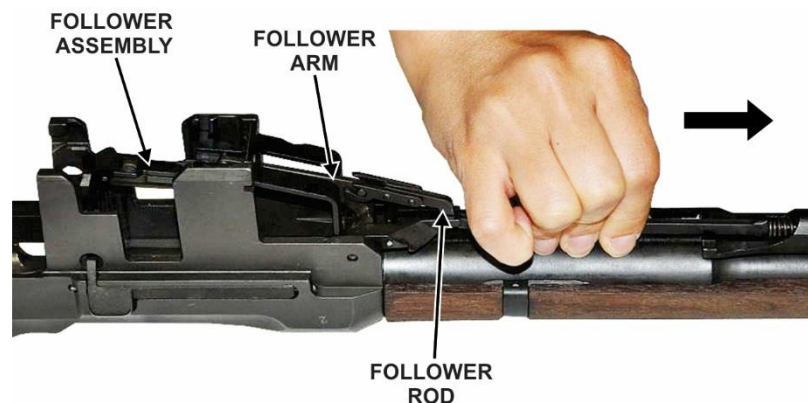
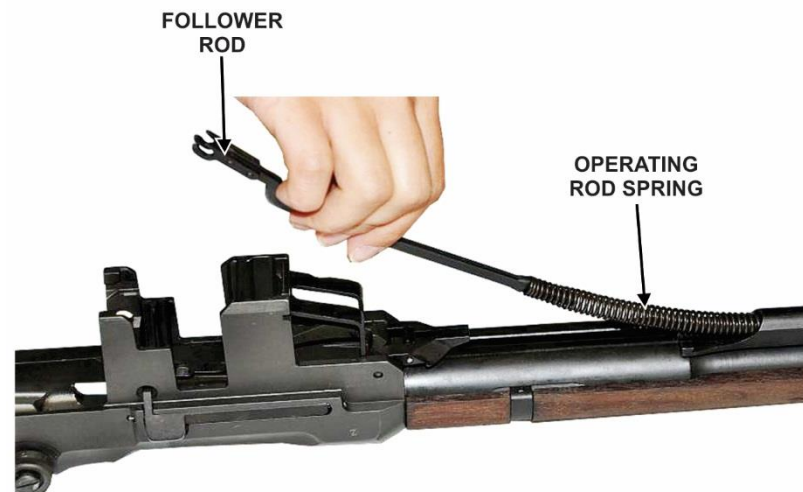

Figure 14. Follower rod being moved towards muzzle
Figure 15. Extending operating rod spring in controlled fashion
- 1) With the sights facing down, place the barrel and receiver group on a flat surface. Hold the rear of the receiver then grasp the follower rod. Disengage the follower rod from the follower arm by moving it toward the muzzle (fig 14), then slowly allow the operating rod spring to extend in a controlled fashion (fig 15). You may need to push down on the follower assembly (shown in fig 14) to disengage the follower rod from the follower arm. Remove the follower rod and operating rod spring from the barrel and receiver group. Do not separate these parts.